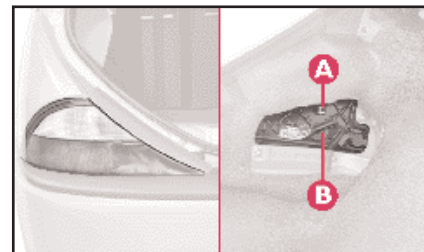

fig. 19
1) From inside the car boot, lift the carpeting and undo screw **A** (fig. 19) securing the light cluster.
5) Refit the lighting cluster, and tighten screw **A** (fig. 19), without forcing it.